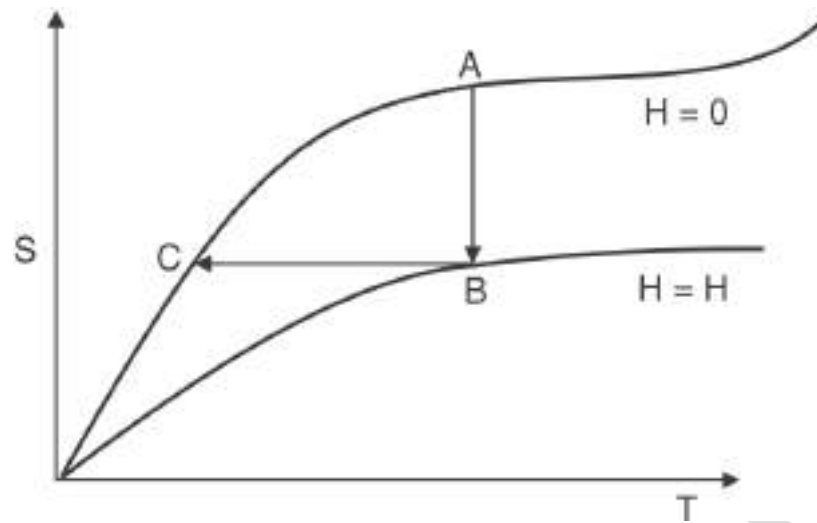

Fig. 14: temperature- entropy diagram of the paramagnetic substance for $H = 0$ and $H = H$.
- We can illustrate the cooling produced by adiabatic demagnetization using temperature- entropy diagram of the paramagnetic substance for $H = 0$ and $H = H$ as shown in Fig. 14.